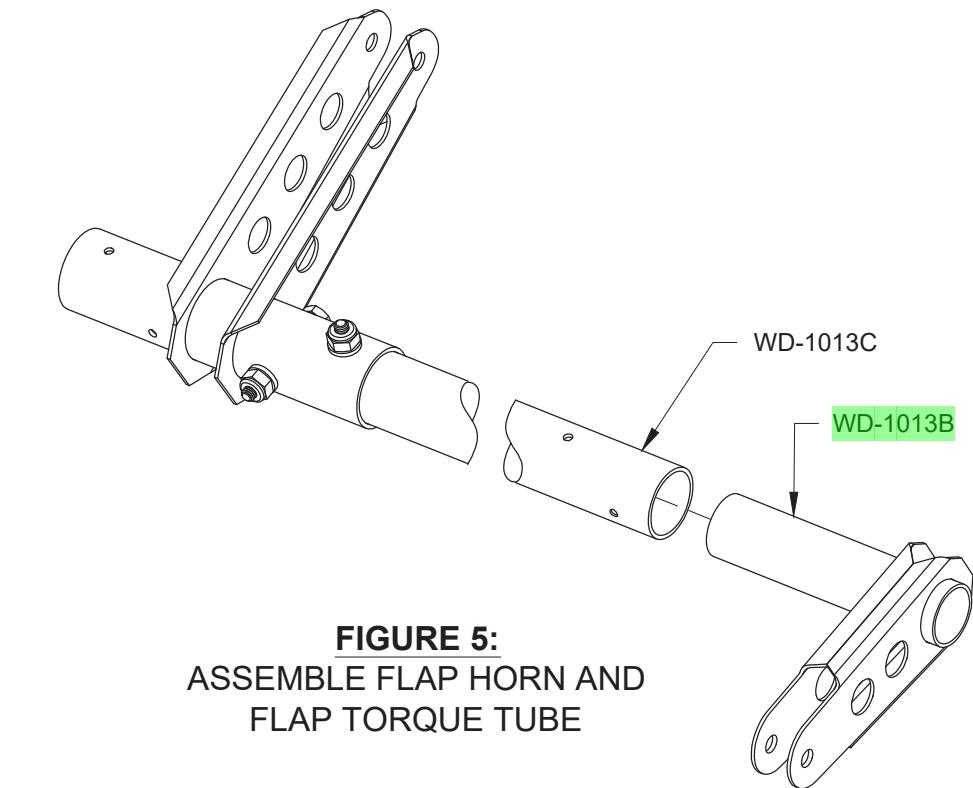

FIGURE 5:
Step 5: Slide a **WD-1013B** Flap Horn into the **WD-1013C** Flap Torque Tube as shown in Figure 5.